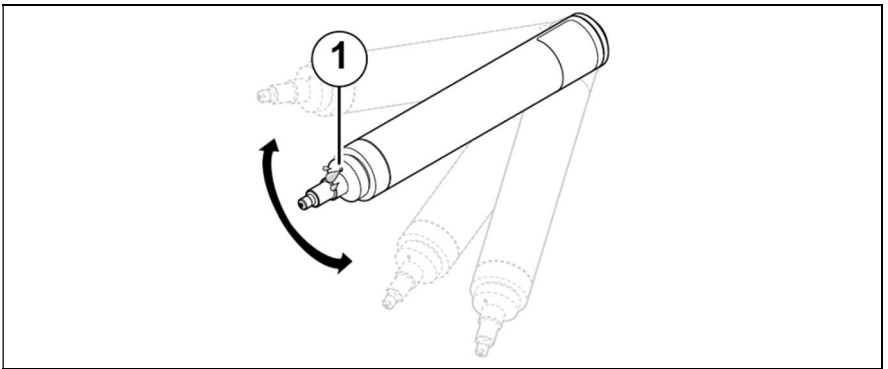

Fig. 12: Shaking the sensor body dry
- ▶ Shake the sensor body dry several times (see Fig. 12, p. 26).